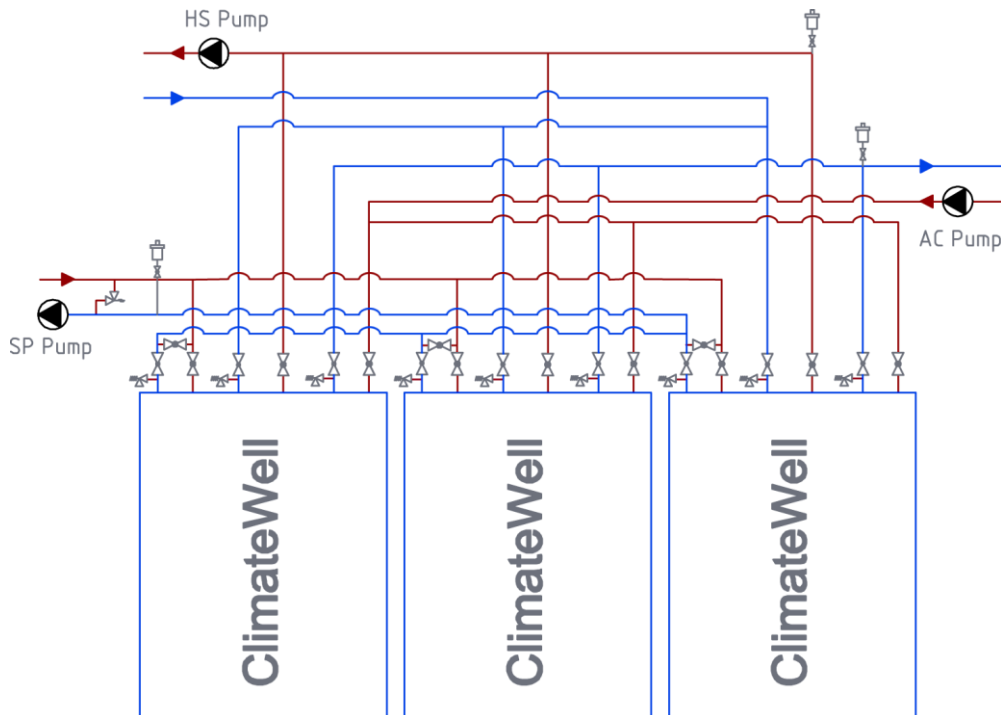

Figure 18: Connection with several ClimateWell units in parallel. Reversed return pipes are used in order to obtain the same flow in each unit for any flow.
- Install a pressure operated bypass valve before the first ClimateWell unit in order not to harm a powerful pump, see Figure 18.